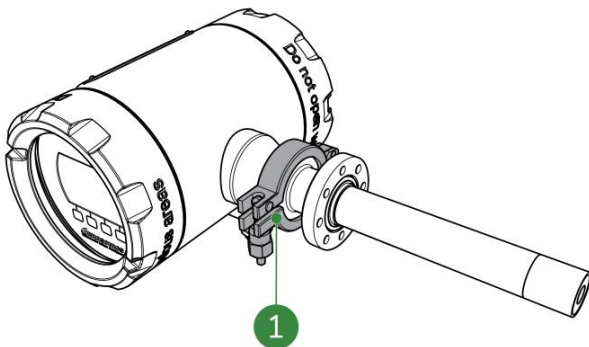

Figure 8-3: Tri-clamp
Check if the tri-clamp (Figure 8-3, pos. 1) is: